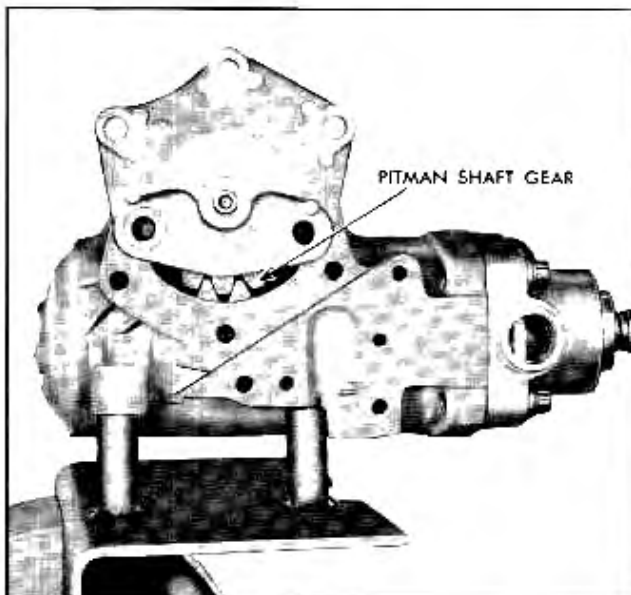

Fig. 9-33 Pitman Shaft Gear Alignment for Removal
3. Align pitman shaft gear with opening in gear housing (Fig. 9-33). Tap end of pitman shaft with a soft hammer and slide shaft out of housing.